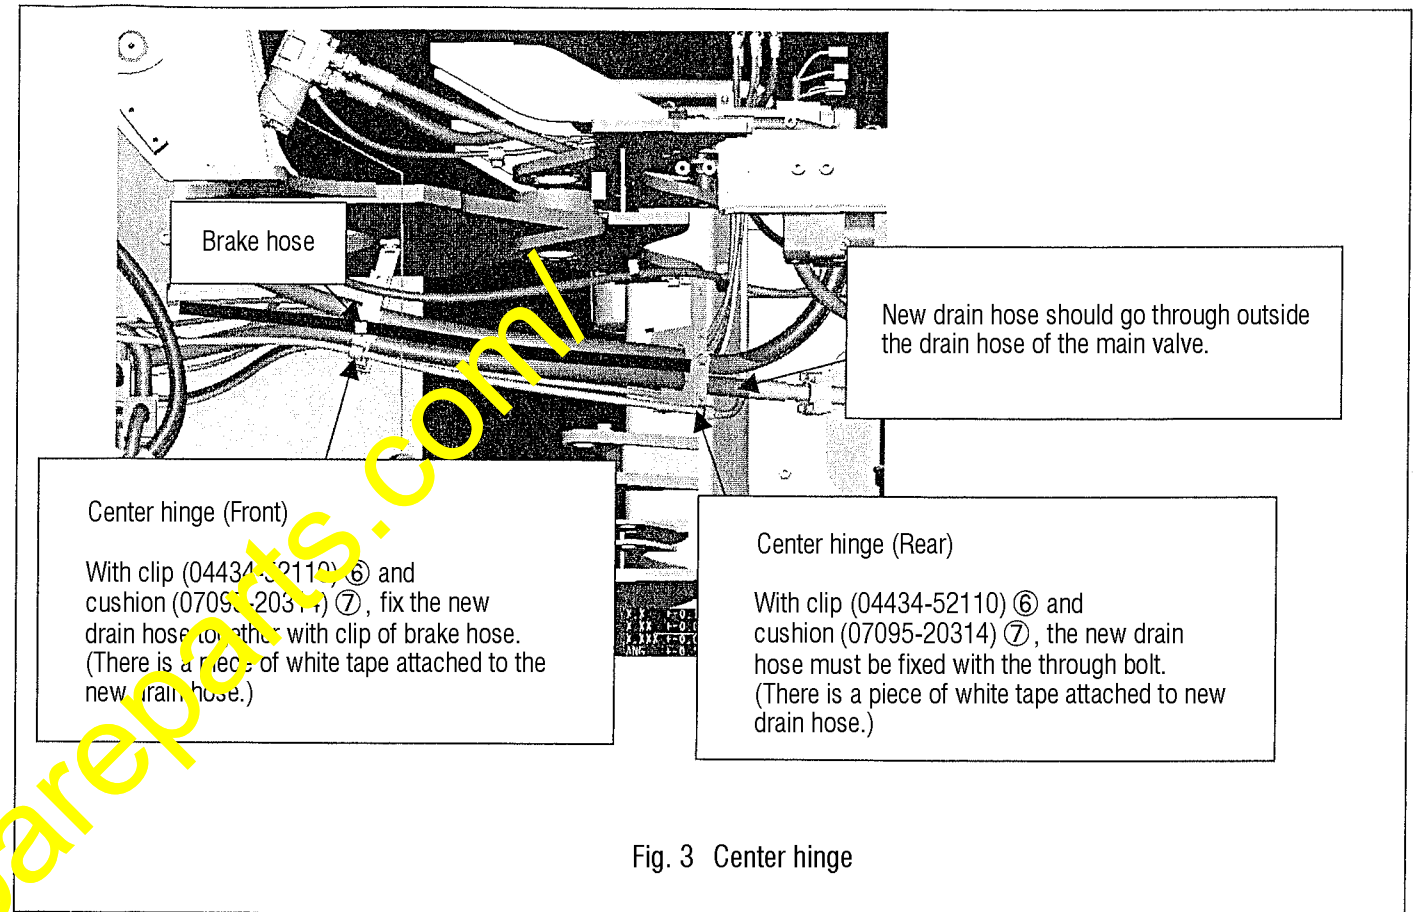

Fig. 3 Center hinge
- (6) With clip (04434-52110) ⑥ and cushion (07095-20314) ⑦, fix the new drain hose at the center hinge (2 places). (Refer to Fig. 3)